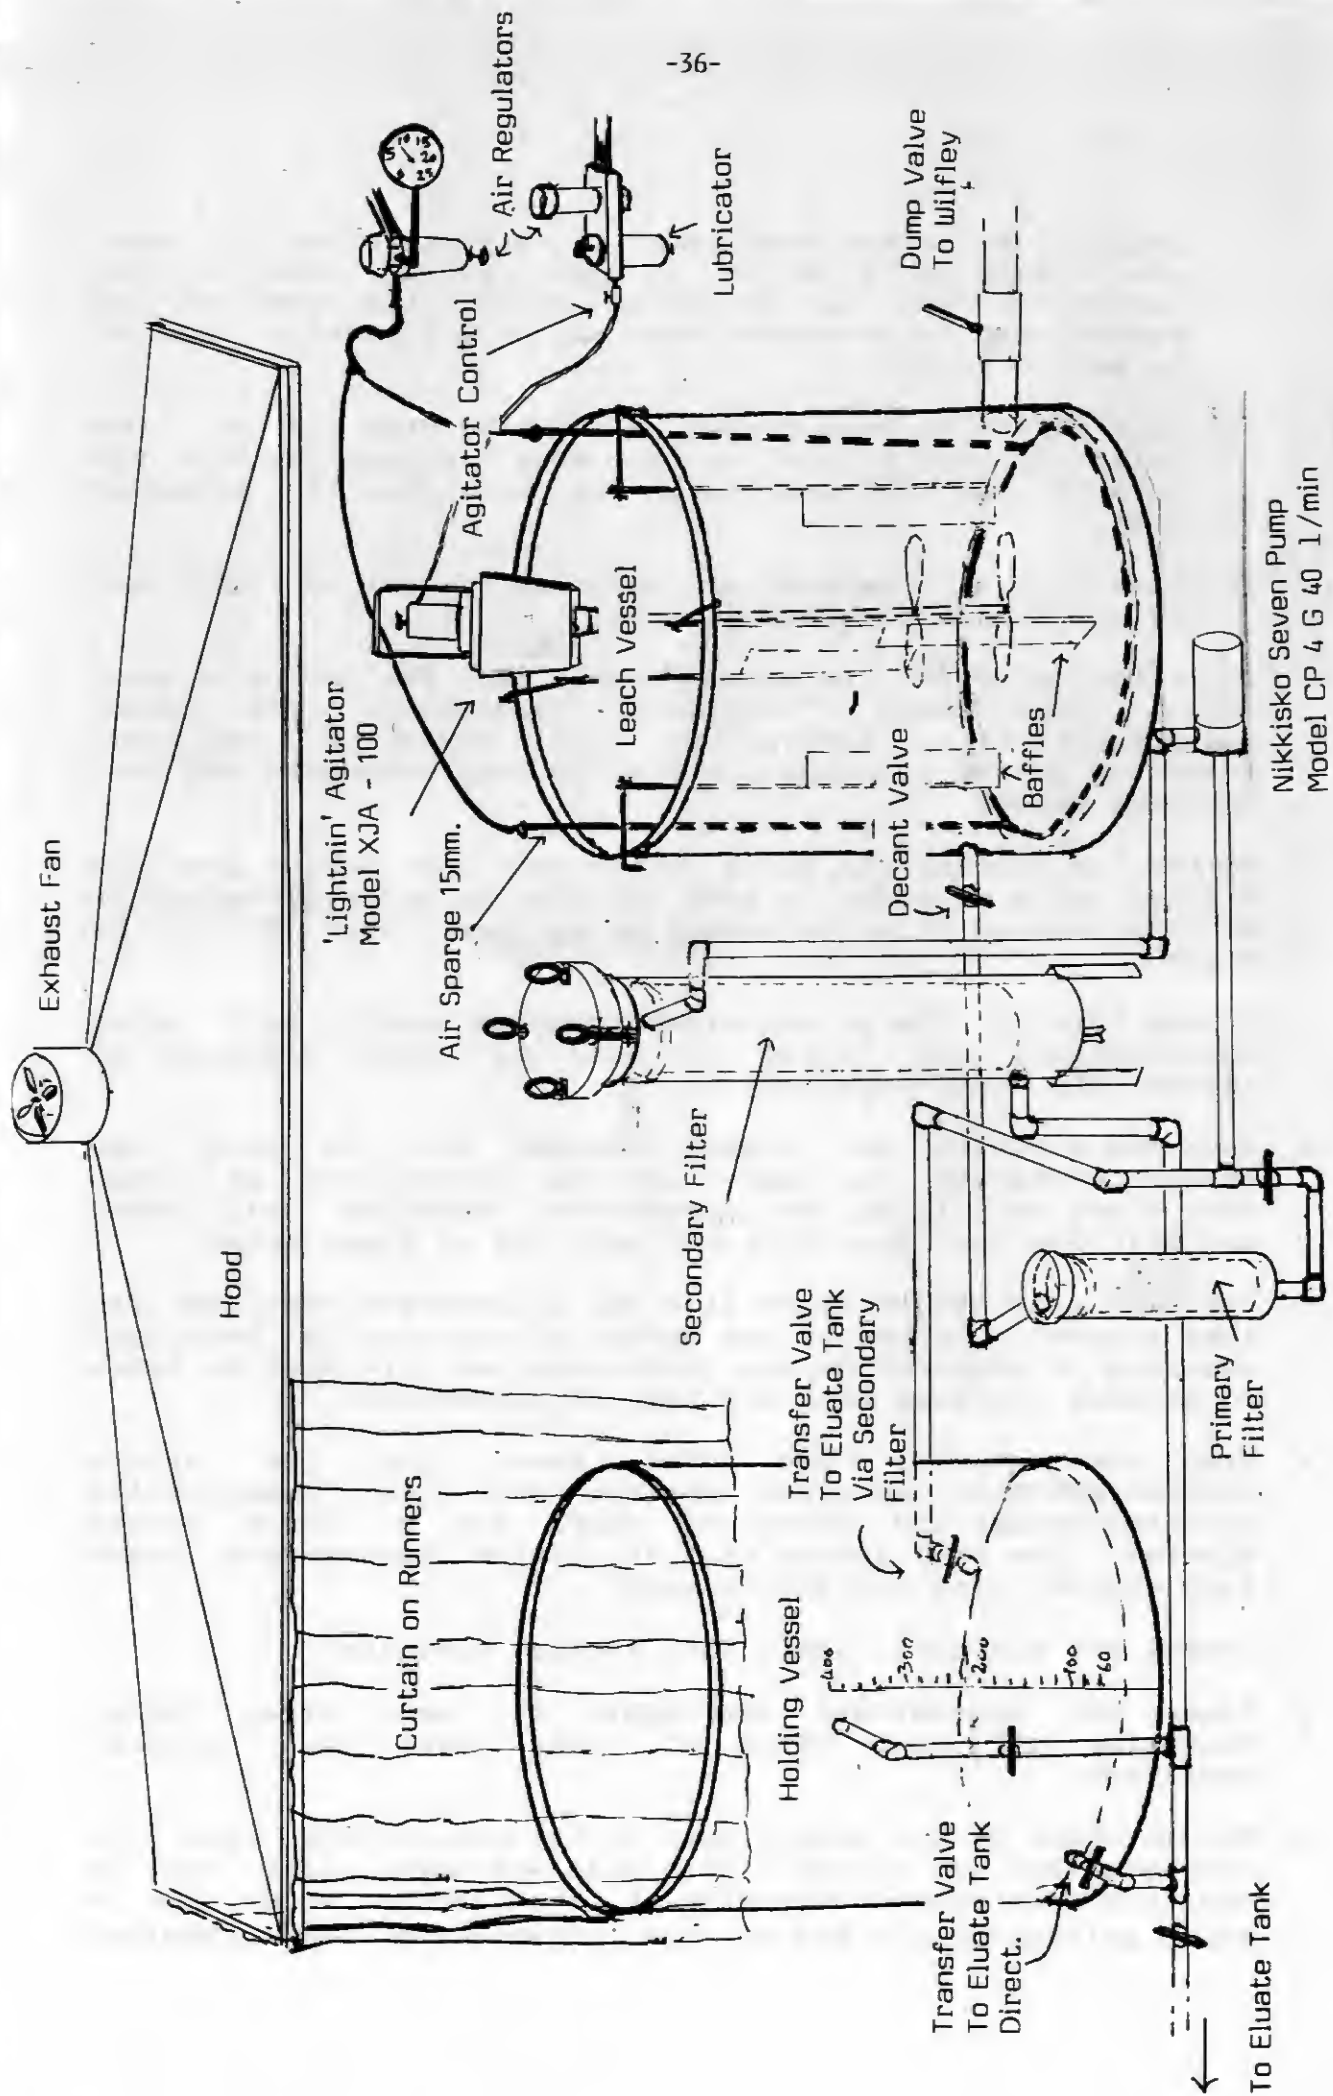

Fig. 16 The Intensive Cyanidation Pilot Plant
b. Description of the Plant (See Fig. 16)